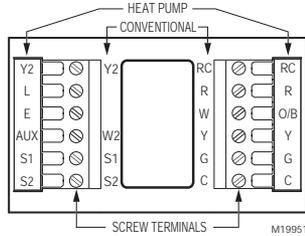

Fig. 3. Selecting terminal identifications for system type.
1. Select set of terminal identifications (Table 2) that corresponds with system type (conventional or heat pump in Fig. 3).